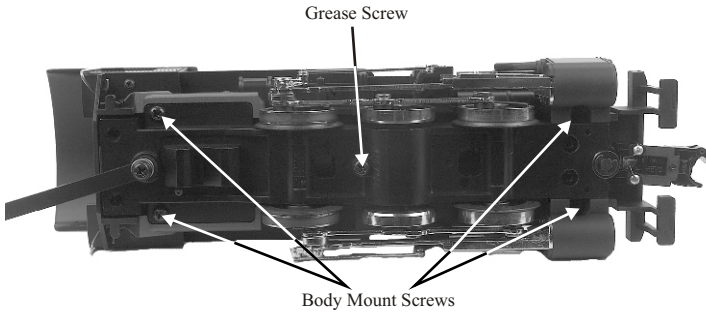

Figure 3: Greasing points on the engine and location of body mount screws
1. Unscrew the Grease screw as shown in Figure 3 and use an applicator to apply grease into these screw holes.
3. Remove the boiler shell as shown in figure 3 on page 10.
Remove the locomotive boiler from its chassis as shown in figure 3 on page 10. Once the boiler has been removed, pull bulb from grommet. and unplug the wires. Reverse the steps of this procedure to install new bulb.